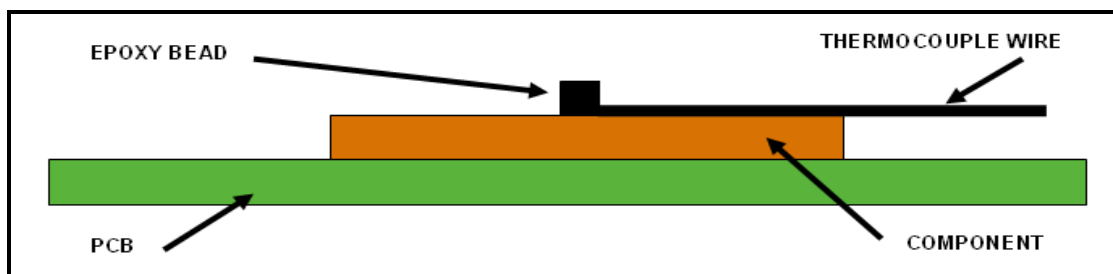

Figure 6. Technique for Measuring  $T_{case}$  with  $0^\circ$  Angle Attachment, No Heat Sink
- Attach the thermocouple at a  $0^\circ$  angle if there is no interference with the thermocouple attach location or leads (see Figure 6). This is the preferred method and is recommended for use with non-enhanced packages.